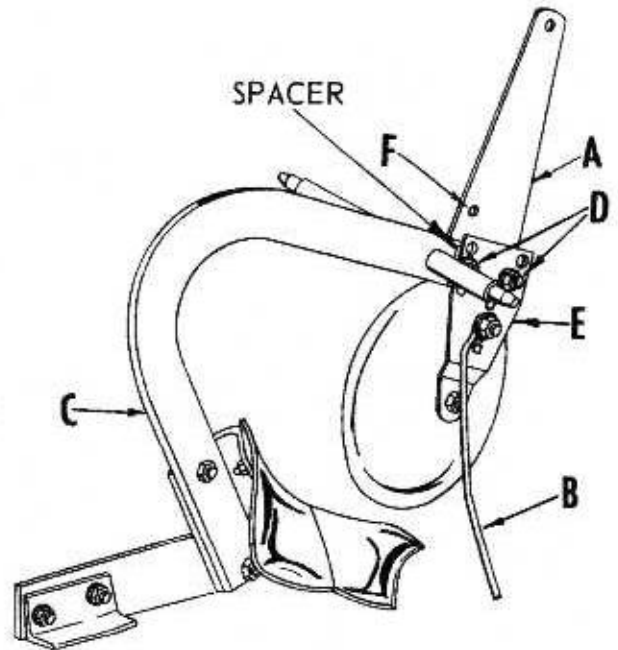

FIG. 1
A letter in parentheses in the following instructions refer to an arrow in Fig. 1.
1. Cut all wires holding Plow to wood pallet in bottom of carton. Also, cut wires holding hitch bracket (A), and weed rod (B), to plow beam (C). Remove Plow from carton.
2. Remove nuts and bolts (D), from beam (C), and coultter bracket (E), refer to Fig. 1.
3. Assemble hitch bracket (A), to beam (C), as shown in Fig. 1, with bolts (D), removed in step 2. NOTE: Extra hole (F), in hitch bracket will be toward rear of Plow.
4. Assemble coultter bracket (E) with coultter to beam using center holes as shown in Fig. 1. NOTE: Be sure spacer is replaced on rear bolt between beam and coultter bracket. Secure with lock washers and hex nuts. Tighten nuts securely. Refer to page 4 for coultter adjustment for other than normal soil conditions.
5. Attach weed rod (B), to center hole in coultter bracket (E). Position flat washer between nut and weed rod.